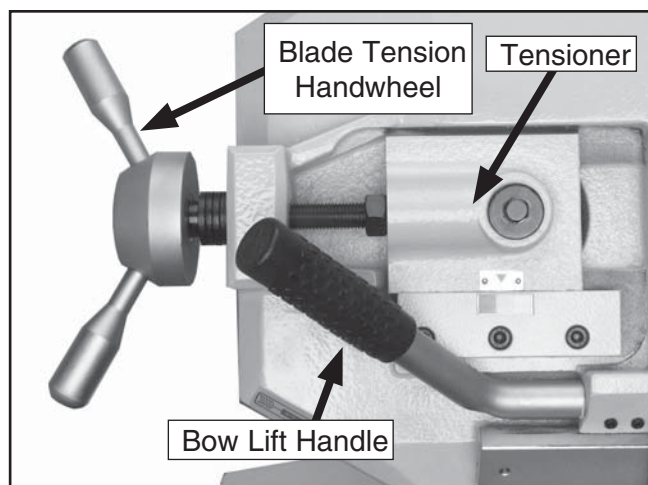

Figure 36. Blade tension handwheel, tensioner, bow lift handle.
1. Locate the blade tension handle (**Figure 36**) and add a few drops of oil on the lead screw.